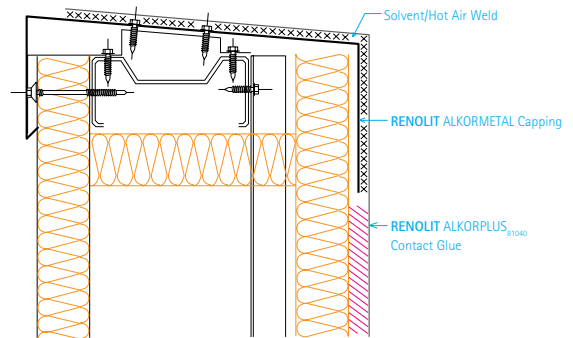

fig. 5: Double-sided gluing of parapets
• Parapets can also be adhered to achieve a wind-tight detail. (See fig. 5) Here, the RENOLIT ALKORPLUS₈₁₀₄₀ contact glue is applied to the entire surface of both membrane and upstand with a minimum consumption of 2 x 150 g/m². The parapet will have a RENOLIT ALKORPLUS metal trim, but compressive foam and intermediate fastening can be omitted.